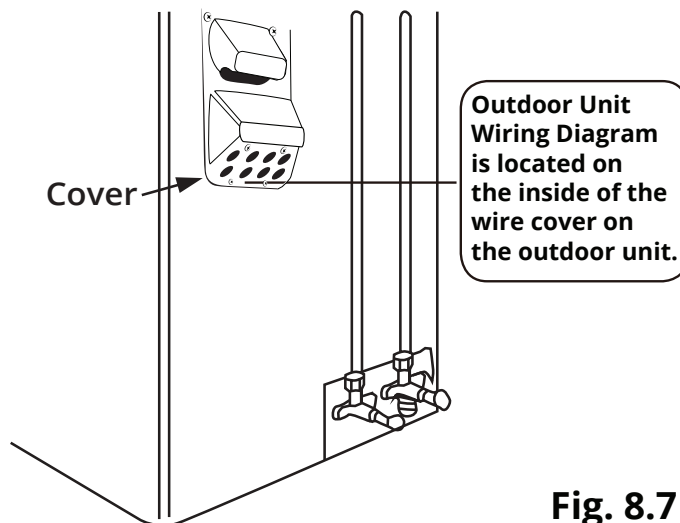

Fig. 8.7
1. Remove the screws from the electrical wiring cover from the outdoor condenser, as shown in the image below and **Fig. 8.7**, and remove it.
ALL WIRING MUST BE INSTALLED STRICTLY IN ACCORDANCE WITH THE WIRING DIAGRAM LOCATED ON THE INSIDE OF THE OUTDOOR CONDENSER WIRE COVER AS SHOWN IN FIG. 8.7.